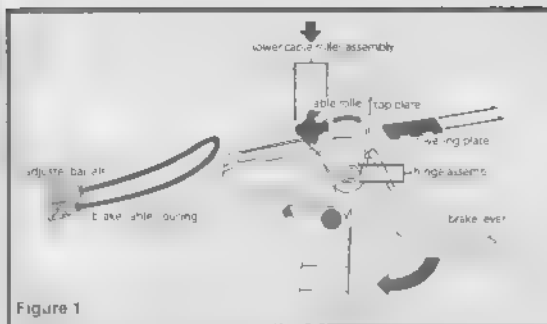

Figure 1
- 1 Slide the covering plate back towards the brake lever (Figure 1). Squeeze the brake lever so the cable rollers are exposed.